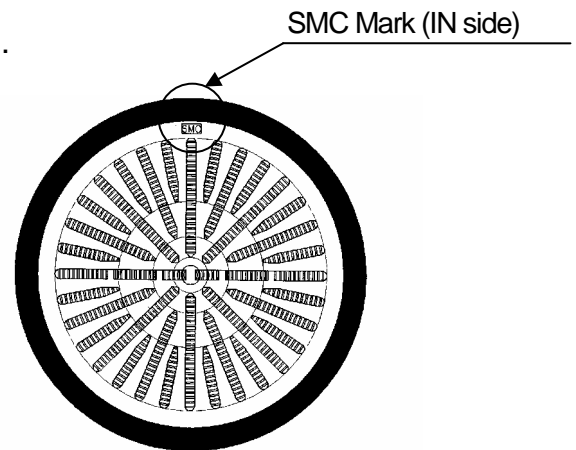

Fig. 2: Element
- 2) Check the direction of IN/OUT of the element and make sure that IN side comes to the IN side of the case. The direction with SMC mark is IN side. (Fig. 2)